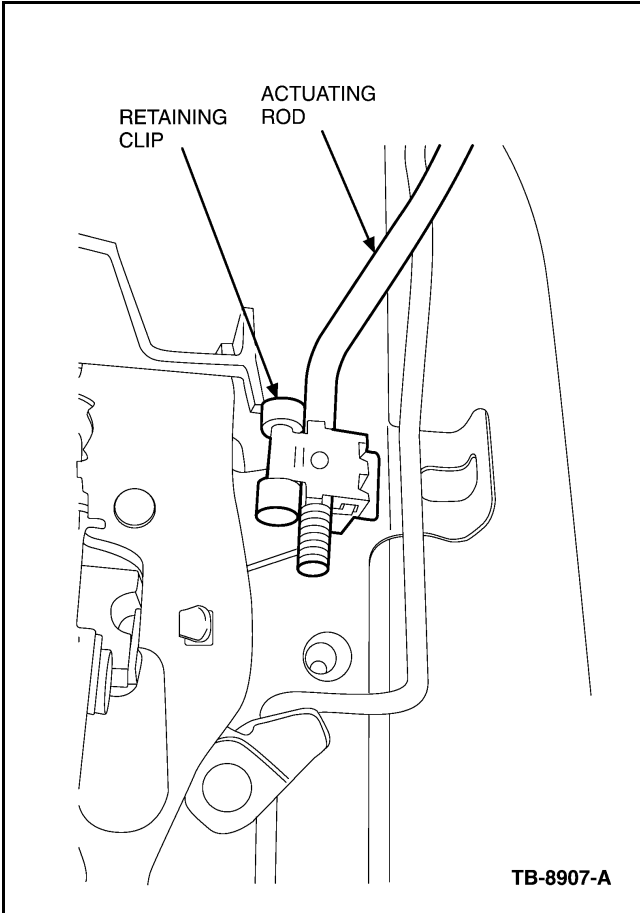

Figure 3 - Article 07-16-7
- a. Open the retaining clip and disconnect the actuating rod. (Figures 3 through 5)